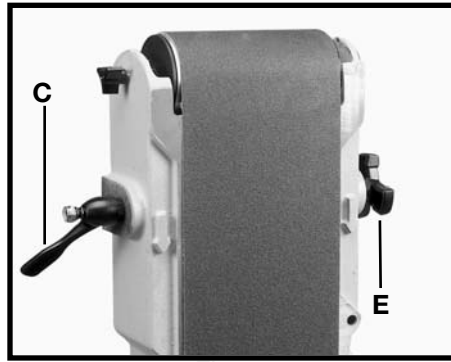
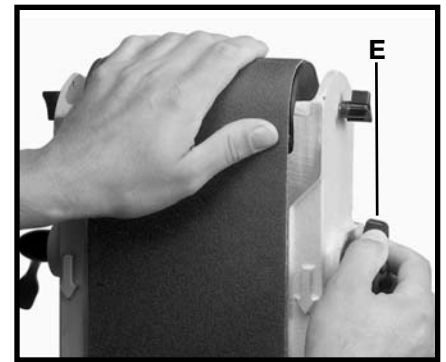

Fig. 18
Fig. 19
3. Turn the belt tension lever (C) Fig. 18 clockwise to increase the belt tension. **NOTE:** The tension lever (C) is spring-loaded and can be repositioned by pulling out the handle, moving it, and letting it spring back into position. Correct tension is determined by:
- (1) flatness of the belt on the plate.
- (2) slippage of the belt when sanding heavy work.
4. Rotate the belt (D) Fig. 19 by hand, and tighten or loosen the tracking knob (E) Figs. 18 and 19 until the belt is tracking correctly.
5. Turn the tool on and off to check for proper tracking. If the belt is leading to one side or the other, very gently turn the tracking knob (E) Fig. 18 clockwise to move the belt to the right or counterclockwise to move the belt to the left.